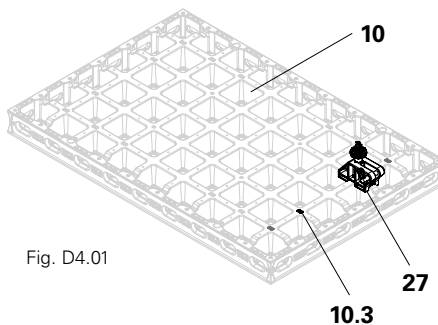

Fig. D4.01
The bolt of the DUO brace connector (27) must point away from the cantilever. (Fig. D4.01 + D4.01a)